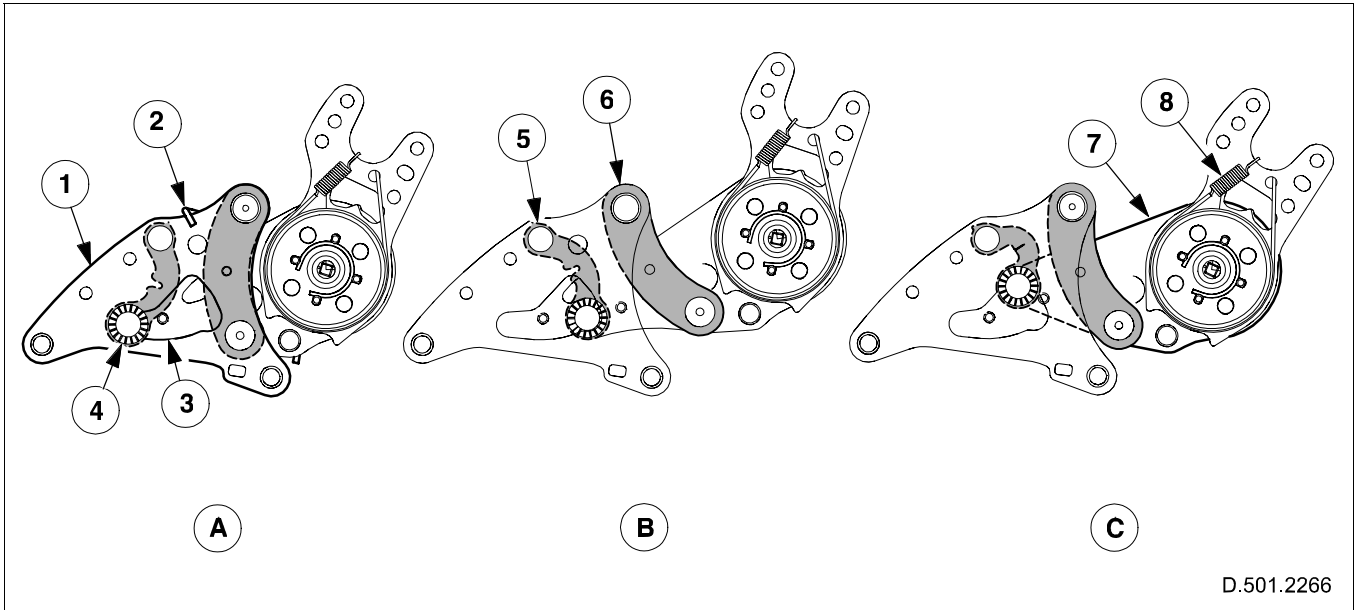

Fig. 147 Anti-whiplash mechanism (left-hand side)
With reference to **Fig. 147**, the mechanism has been engineered so that during a rear impact collision, the movement of the recliner plate(7) and backrest, is controlled. This is achieved by constraining the movement of the guide-pin(4) within the window(3) of the outer side-plate(1).